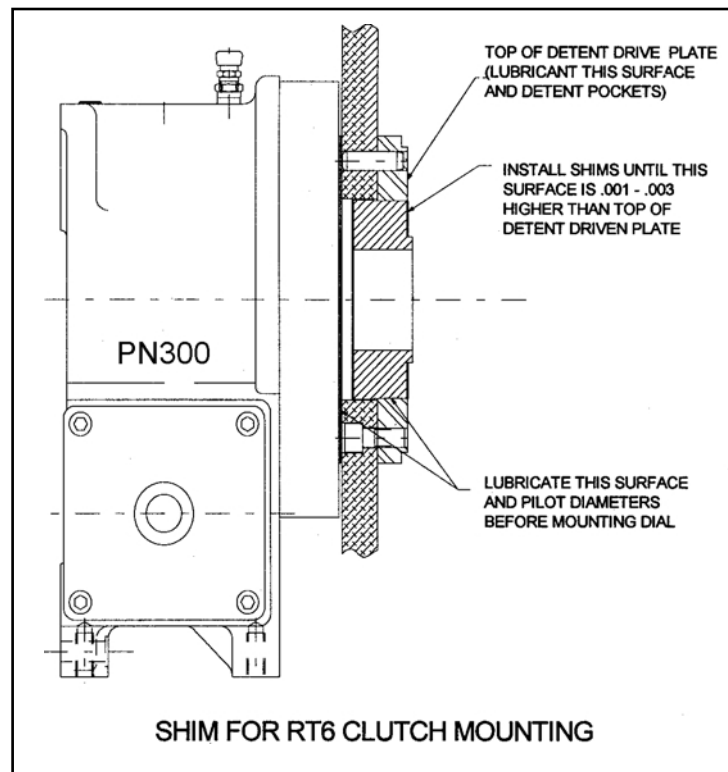

FIGURE 9
- 4.2.3.1. Coat the Indexer dial mounting surface and pilot with Molykote™ Grease and mount the clutch adapter and dial/detent plate assembly. (See Figure 9).